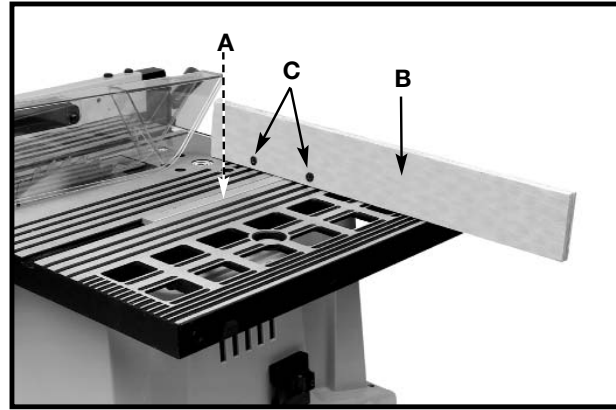

Fig. 42A
For added safety and convenience the miter gage (A) can be fitted with an auxiliary wood-facing (B), as shown in Fig. 42A, that should be at least 1 inch higher than the maximum depth of cut, and should extend out 12 inches or more to one side or the other depending on which miter gage slot is being used. This auxiliary wood-facing